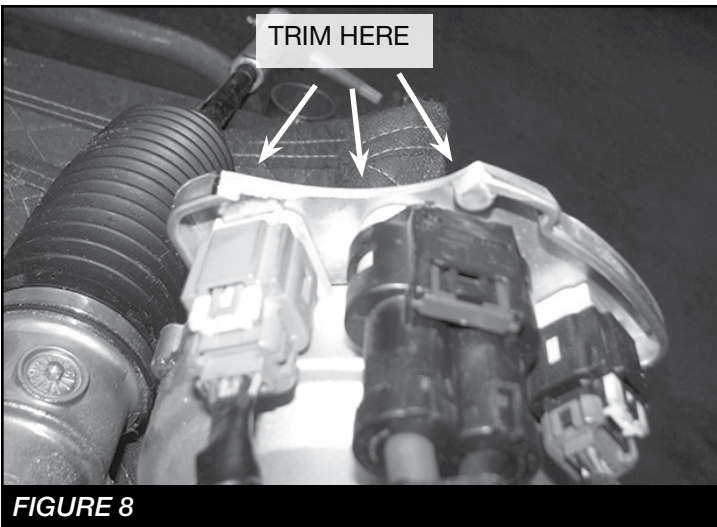

FIGURE 8
11. Due to vehicle variances, the steering will need to be removed and trimmed on the driver side where the wiring harnesses are located. **SEE FIGURE 8**